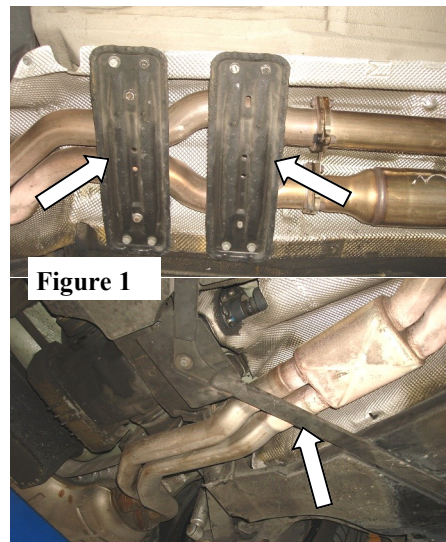

Figure 1
2. Temporary remove (2) OE cross-braces and left-side diagonal-bracing. Keep hardware for reinstallation later. (See Fig.1)